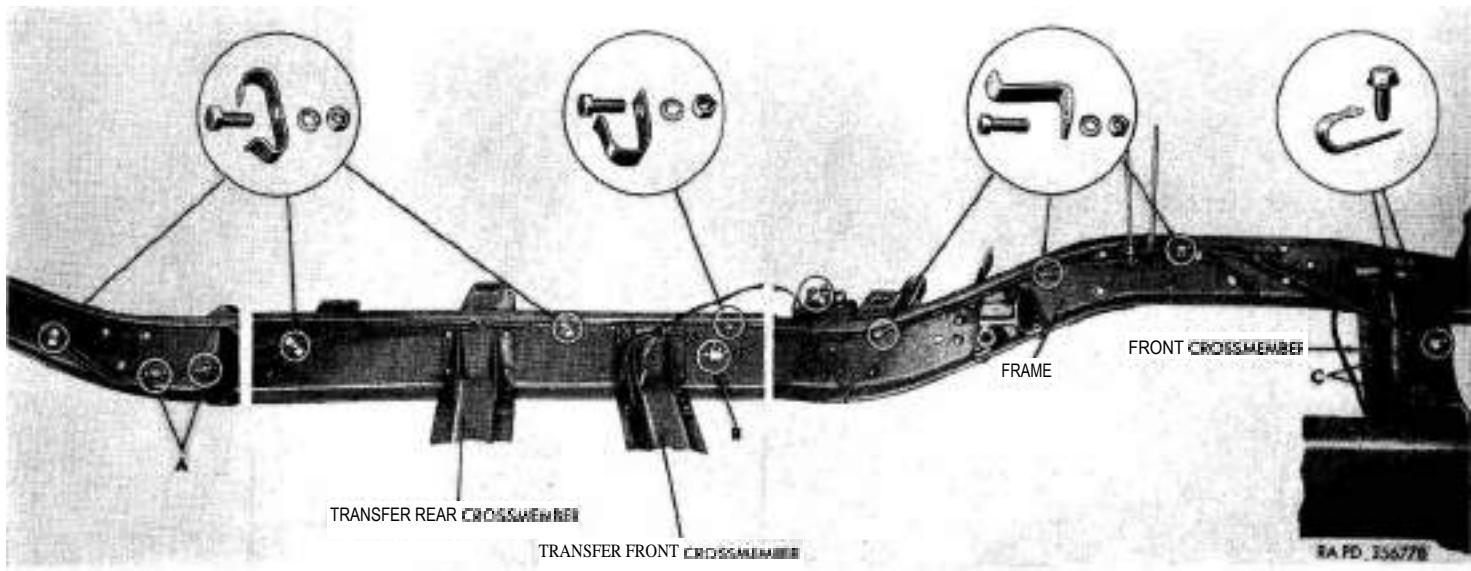

Figure 38. Fuel, brake, and vent lines disconnect points.
- (1) Remove nut and lock washer from brake line frame tee (E, *fig. 34* and B, *fig. 38*). Remove all vent, brake, and fuel lines from clips at right and left frame side rails, frame transfer front cross member, and frame front cross member (figs. 38 and 39). Disconnect line unions (A, *fig. 38*) and remove lines and clips.
- (1) Place fuel lines, brake lines, and vent lines in frame side rails on front cross member and transfer front cross member. Connect unions (A, fig. 38). Install lock washer and nut on brake line frame tee (E, fig. 34 and B, fig. 38).
- (4) Install clips, or combination of clips, as indicated on figures 38 and 39 for attachment of fuel, brake, and vent lines, and wiring harness to frame side rails and cross members (twenty $\frac{1}{4}$ -28NF x 1 cap screws, $\frac{1}{4}$ -inch lock washers, and $\frac{1}{4}$ -28NF nuts). Attach two clips (C, fig. 38) to the front cross member with 5/16-18NC x 9/16 self-tapping, washer face screws. Install three open-tension-type clips on frame rear cross member (three 1/4—28NF x 1 cap screws, $\frac{1}{4}$ -inch lock washers, and $\frac{1}{4}$ -28NF